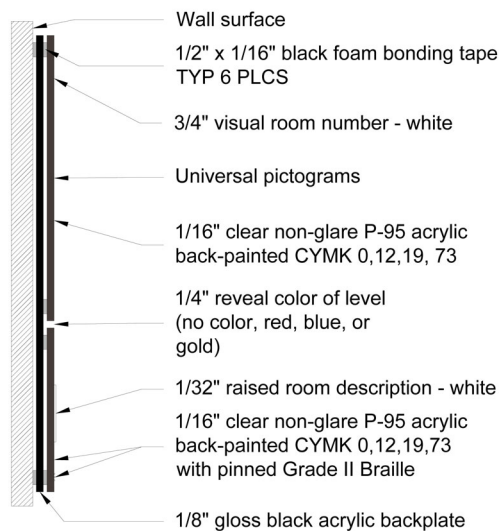

Figure 18.11
18.11. UMD D3 sign cross section shall comply with figure 18.11.
- 19.11. UMD D4 sign cross section shall comply with figure 18.11.